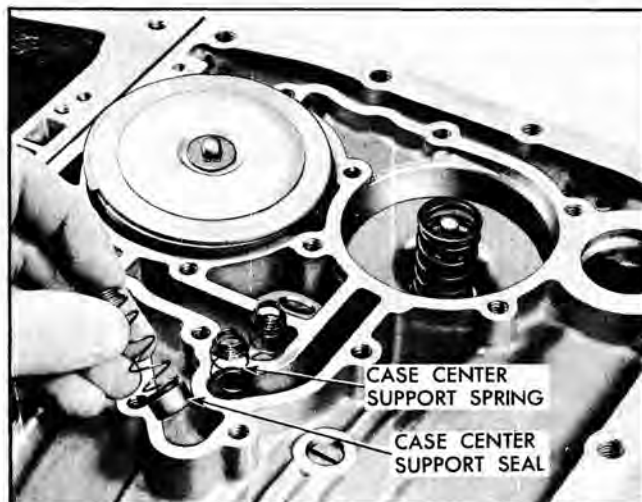

Fig. 136 Installing Case Center Support Seals and Springs
10. Install 3 case center support to case seals and springs, seals down (Fig. 136).